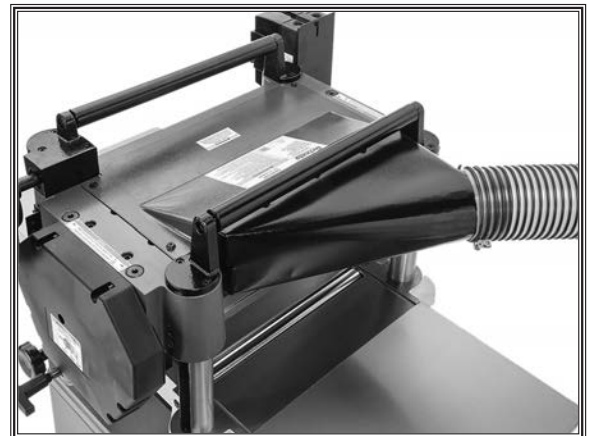

Figure 12. Example of dust hose connected to dust port.
1. Fit a 4" dust hose over the dust port, as shown in **Figure 12**, and secure it in place with a hose clamp.